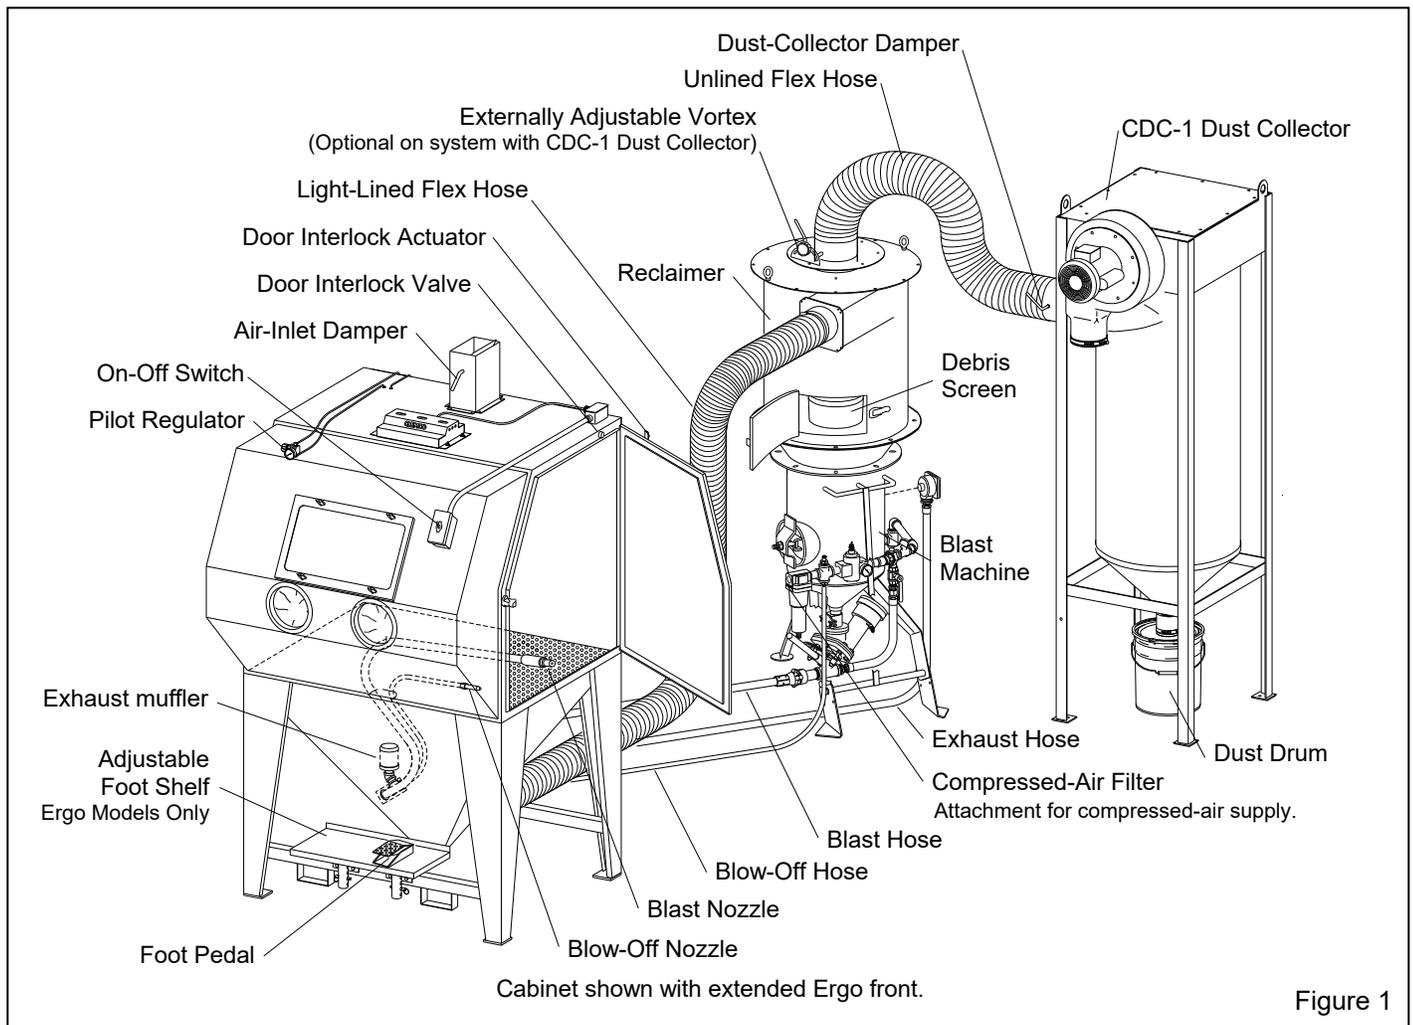

Figure 1
1.4.3 Refer to Figure 1 for arrangement of components with a CDC-1 Dust Collector. The illustration shows 900 cfm reclaimer mounted atop the blast machine; the smaller 600 reclaimer is mounted in the same manner. Figure 2 shows the arrangement with an RPC-2 reverse-pulse dust collector with dust drawer. The optional RPH is set up the same way as the RPC-2, but includes a hopper for additional dust storage and empties into a drum. The overall height of an RPH-2 is approximately 10.5 ft and 12 ft when the top access
1.7.1 CDC-1 Dust Collectors: Shown in Figure 1, the collector is available in 600, and 900 cfm models. The single filter cartridge is cleaned by using a manually controlled pulse of compressed air. Dust collects in a 5-gallon dust drum, which must be frequently emptied. CDC-1 Dust Collectors (refer to manual number 28225) are standard with BNP cabinets unless an optional RPC-2 or RPH Dust Collector is ordered at time of purchase.
2.1.1 Refer to Figure 1 (and Figure 2 for optional reverse-pulse collector) for the general arrangement and Figure 6 for the control line schematic. Select a location where compressed air and electrical service are available. The cabinet location must comply with OSHA and local safety codes. Allow for full access to all doors and service areas and for efficient handling of large